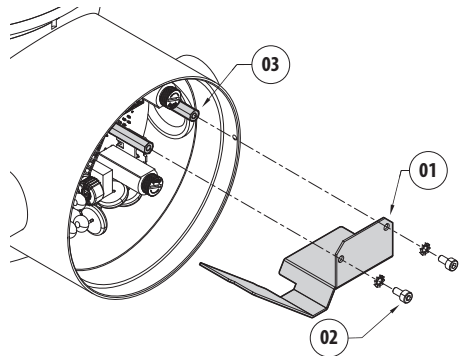
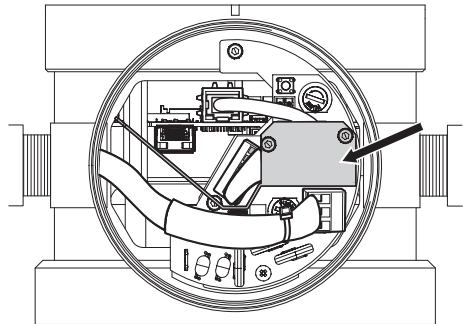

Fig. 17
Fig. 18
Fasten the barrier (01) using the specific screws and washers (02) to the prepared spacers (03) (Fig. 17, page 27 and Fig. 18, page 27).